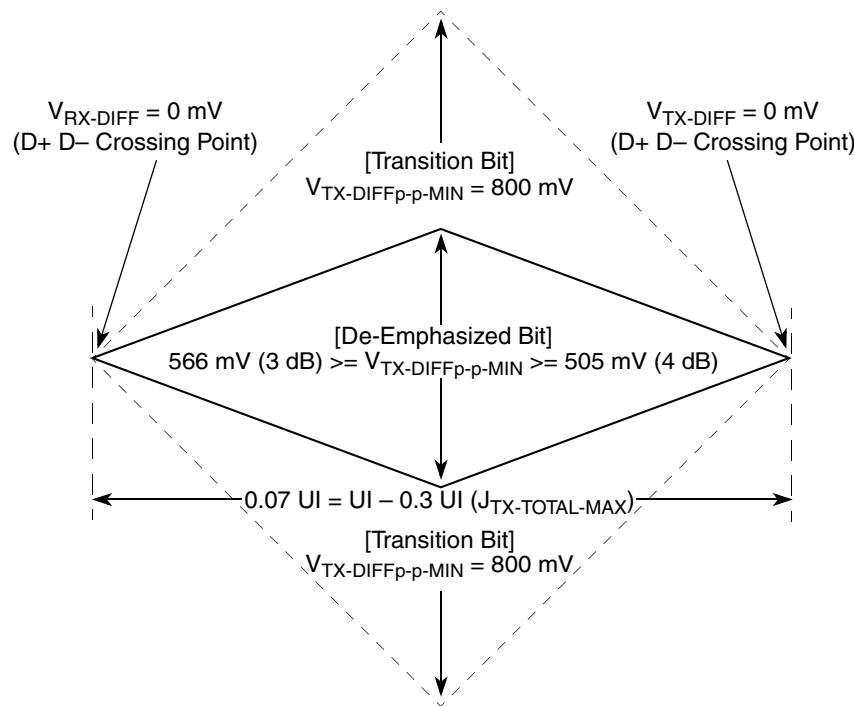
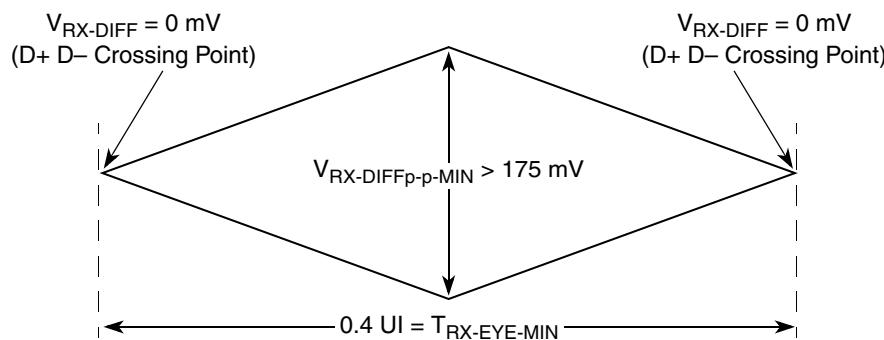
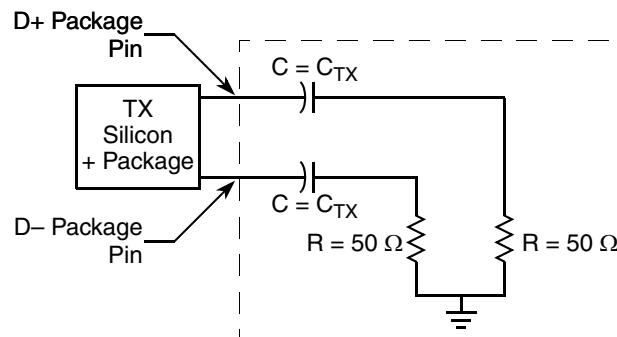

Figure 48. Minimum Transmitter Timing and Voltage Output Compliance Specifications
Figure 49. Minimum Receiver Eye Timing and Voltage Compliance Specification
Figure 50. Compliance Test/Measurement Load
2. Specified at the measurement point into a timing and voltage compliance test load as shown in Figure 50 and measured over any 250 consecutive TX UIs. (Also see the transmitter compliance eye diagram shown in Figure 48.)
4. The transmitter input impedance shall result in a differential return loss greater than or equal to 12 dB and a common mode return loss greater than or equal to 6 dB over a frequency range of 50 MHz to 1.25 GHz. This input impedance requirement applies to all valid input levels. The reference impedance for return loss measurements is 50Ω to ground for both the D+ and D– line (that is, as measured by a vector network analyzer with 50Ω probes—see Figure 50). Note that the series capacitors C_{TX} is optional for the return loss measurement.
5. Measured between 20%–80% at transmitter package pins into a test load as shown in Figure 50 for both $V_{\text{TX-D+}}$ and $V_{\text{TX-D-}}$.
The TX eye diagram in Figure 48 is specified using the passive compliance/test measurement load (see Figure 50) in place of any real PCI Express interconnect +RX component.
2. Specified at the measurement point and measured over any 250 consecutive UIs. The test load in Figure 50 must be used as the RX device when taking measurements (also see the receiver compliance eye diagram shown in Figure 49). If the clocks to the RX and TX are not derived from the same reference clock, the TX UI recovered from 3500 consecutive UI must be used as a reference for the eye diagram.
4. The receiver input impedance shall result in a differential return loss greater than or equal to 15 dB with the D+ line biased to 300 mV and the D– line biased to –300 mV and a common mode return loss greater than or equal to 6 dB (no bias required) over a frequency range of 50 MHz to 1.25 GHz. This input impedance requirement applies to all valid input levels. The reference impedance for return loss measurements for is 50Ω to ground for both the D+ and D– line (that is, as measured by a vector network analyzer with $50\text{-}\Omega$ probes—see Figure 50). Note: that the series capacitors CTX is optional for the return loss measurement.
The RX eye diagram in Figure 49 is specified using the passive compliance/test measurement load (see Figure 50) in place of any real PCI Express RX component.
Note: In general, the minimum receiver eye diagram measured with the compliance/test measurement load (see Figure 50) is larger than the minimum receiver eye diagram measured over a range of systems at the input receiver of any real PCI Express component. The degraded eye diagram at the input receiver is due to traces internal to the package as well as silicon parasitic characteristics which cause the real PCI Express component to vary in impedance from the compliance/test measurement load. The input receiver eye diagram is implementation specific and is not specified. RX component designer must provide additional margin to adequately compensate for the degraded minimum receiver eye diagram (shown in Figure 49) expected at the input receiver based on some adequate combination of system simulations and the return loss measured looking into the RX package and silicon. The RX eye diagram must be aligned in time using the jitter median to locate the center of the eye diagram.
The reference impedance for return loss measurements is 50. to ground for both the D+ and D– line (that is, as measured by a vector network analyzer with $50\text{-}\Omega$ probes—see Figure 50). Note that the series capacitors, CTX, are optional for the return loss measurement.
The AC timing and voltage parameters must be verified at the measurement point, as specified within 0.2 inches of the package pins, into a test/measurement load shown in Figure 50.